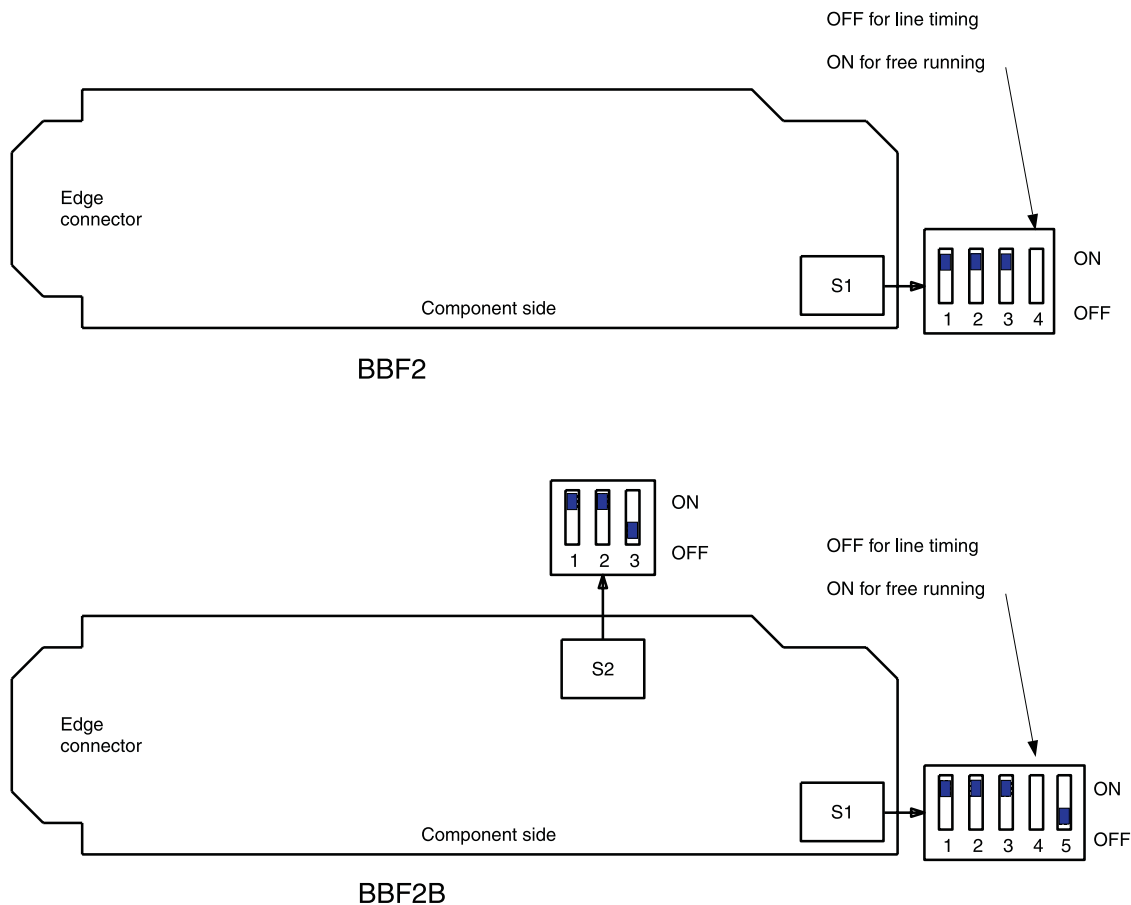

Figure 1 – BBF2 and BBF2B TGS Option Switches
2. Set the option switches for the correct timing mode using Figure 1 and Tables B and C.
To set switch to ON, depress rocker or slide switch toward side labeled **ON** in Figure 1. To set switch to OFF, depress rocker or slide switch toward side labeled **OFF** in Figure 1.
- Using the work order, Figure 1, Tables A, B, C, and D, set the other option switches on both **TGS** circuit packs.